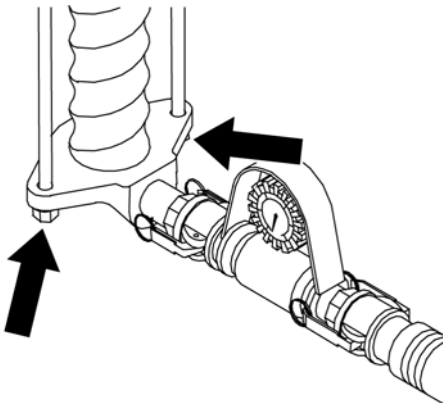

Fig. 60: Loosen the tension rod nuts
5. Lightly loosen the nuts on the tension rod (Fig. 60/arrows) so that any residual pressure can completely dissipate.